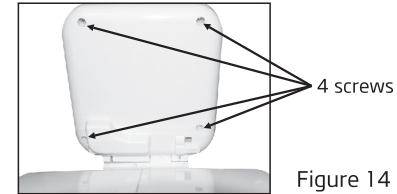

Figure 14
- ▶ Unscrew 4 fixing screws on the back of the panel.(Figure 14)